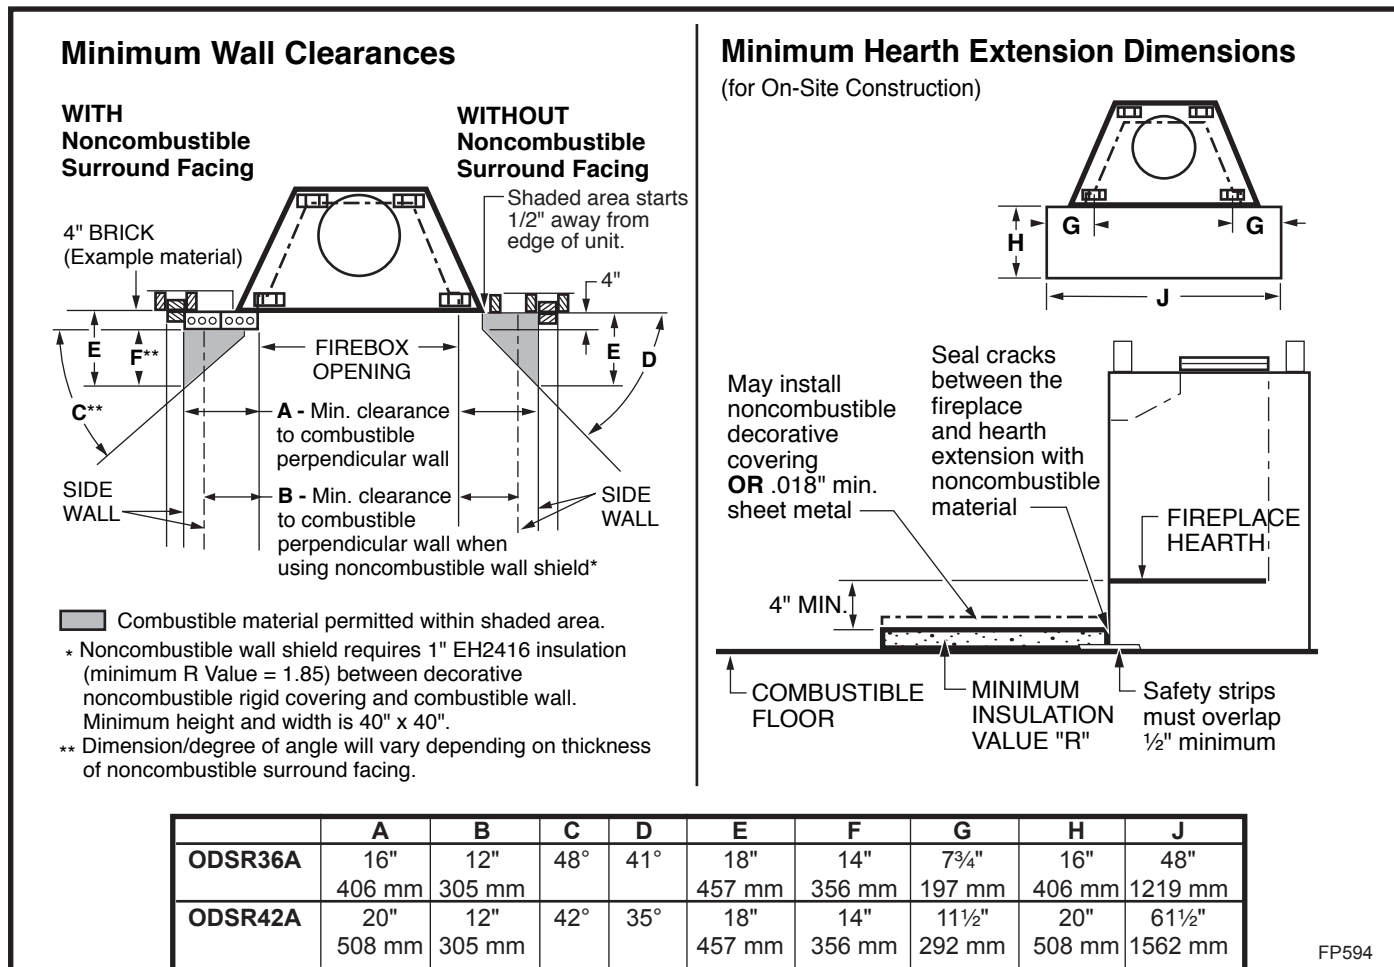

Fig. 24 Combustible side wall protection and hearth extension dimensions.
Often a decorative surround or vertical portion of the mantel is desired. If this is constructed of any combustible material it must be within the safe zone indicated in Figure 24.
Adjacent combustible side walls that are within the minimum dimensions shown in Figure 24 of fireplace opening must be protected with MHSC Wall Shield Model SP40 or a specifically built wall shield described below.
A hearth extension is required to protect a combustible floor in front of the fireplace. Refer to Figure 24 for minimum dimensions and mounting detail.
The hearth extension described in Figure 24 must be a durable noncombustible material with a minimum (total) Rt value of 1.09; refer to Figure 25 for examples. The overall height (above a combustible floor), depth and width must be as indicated, with the extension centered to the fireplace opening.
The top of insulation must be covered with a noncombustible decorative covering or a piece of .018" minimum sheet metal, to protect hearth extension material. (Fig. 24)
Secure the hearth extension to the floor to prevent shifting, using trim molding or other similar means at three (3) outer edges. Seal crack between the fireplace hearth and hearth extension with a noncombustible material. (Figs. 24 and 26)